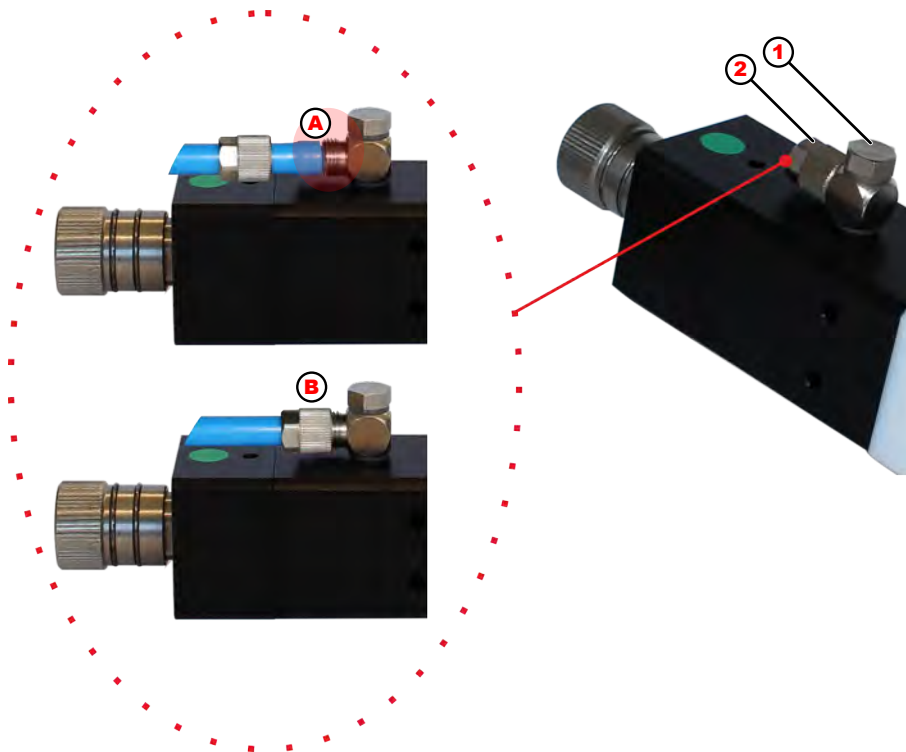

Fig. 3: Compressed air connection
By loosening the 'locking screw for compressed air connection' Fig. 3 pos. 1, the angle of the compressed air connection can be adapted to the local conditions.
When fitting the compressed air hose, it is essential to push the hose up to the stop (see Fig. 3, Item. A)